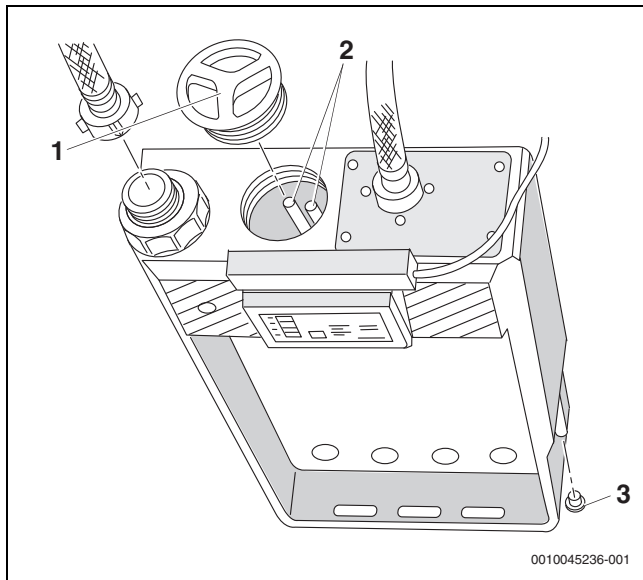

Fig. 9 Cleaning the condensate neutraliser
- ▶ Unscrew the cover of the inspection aperture (→ Figure 9, [1]) and drain flap (→ Figure 9, [3]).
- ▶ If necessary, carefully clean the electrodes (→ Figure 9, [2]).
- ▶ Take the appliance to the location, align horizontally, close the cover of the inspection aperture (→ Figure 9, [1]) and drain flap (→ Figure 9, [3]) again.
- ▶ Check the electrodes, clean carefully if required (→ Figure 9, page 7).